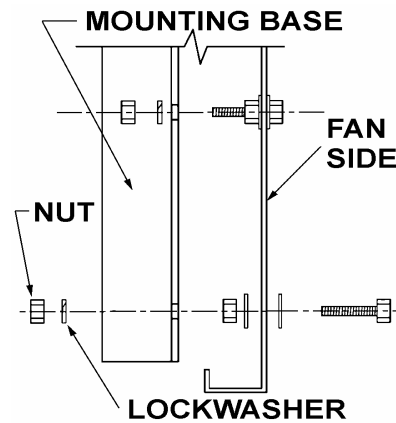

Figure 14 - Mounting Base Installation
2. Use 8 mm lockwashers and nuts to secure the mounting base to the unit (See Figure 14).